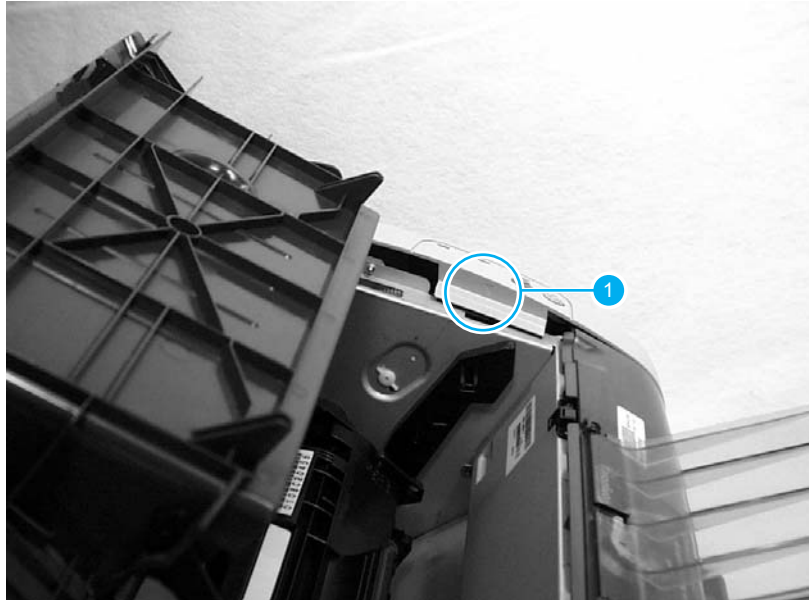

Figure 5-7. Removing the right side cover (4 of 5)
4. Open the print cartridge door. Lift up at the arrow on the inside of the right side cover (callout 1, figure 5-7) to release a tab on top.